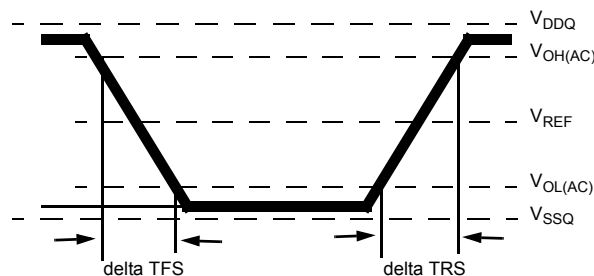

Figure 7. Single Ended Output Slew Rate definition
With the reference load for timing measurements, output slew rate for falling and rising edges is defined and measured between VOL(AC) and VOH(AC) for single ended signals as shown in Table 16 and figure 7.